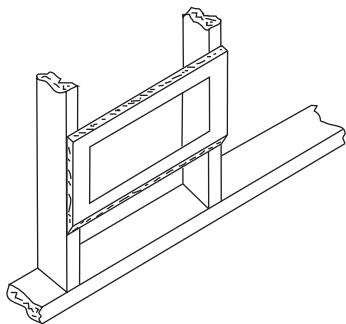

Figure 4
1. Locate wall studs to be sure that entire cut-out can be made between studs. At least one side of the cut-out must be flush with side of the stud. Bottom of cut-out must be 4" above finished floor minimum. Make a cut-out in wall 14½" wide x 6¾" high (368 mm x 171 mm) (see Figure 4).